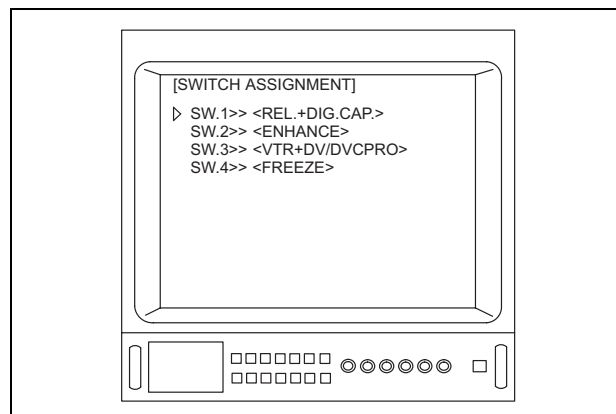

Figure 5.5
- Move the arrow “▷” to the function that you would like to set up, then depress the menu switch “” or the “Enter” key on the keyboard to go to the respective menu. (For example, depress the the menu switch “” or the “Enter” key on the keyboard when the menu shown in Figure 5.4 is displayed to go to the menu shown in Figure 5.5.)
- The number of "SWITCH ASSIGNMENT" displayed (see Figure 5.5) depends upon the number of remote control switches on the camera head or videoscope.
- Depending upon the OTV-S7V's settings, the menu shown in Figure 5.5 may appear different from that displayed on the video monitor.
- Press the menu switch "■" or the "F1" key on the keyboard quickly to go to the previous menu. (For example, press the menu switch "■" or the "F1" key on the keyboard quickly when the menu shown in Figure 5.5 is displayed to go the menu shown in Figure 5.4.)